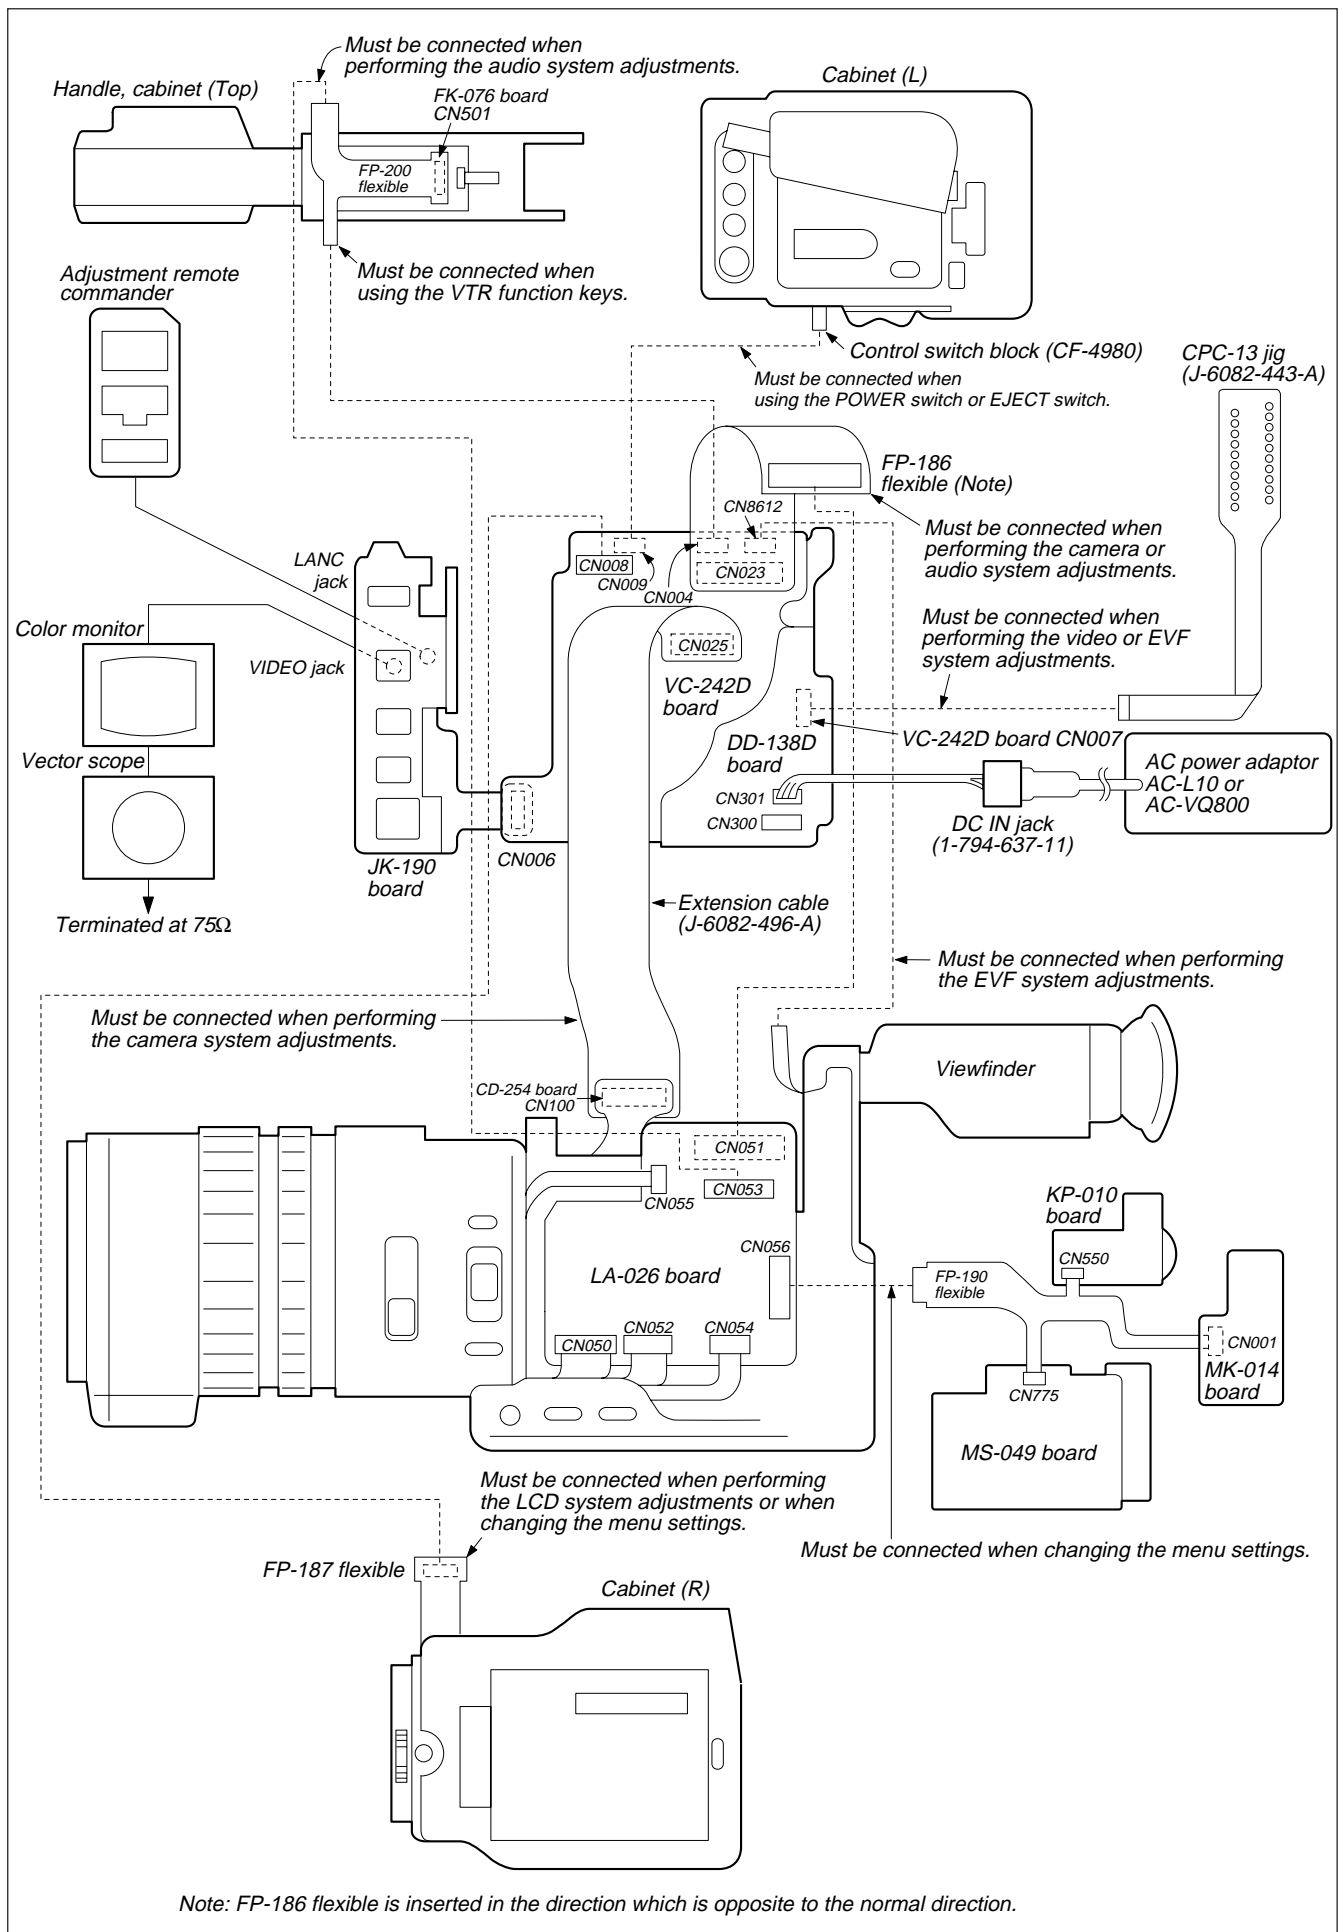

Fig. 5-1-3.
1) Connect the equipment for adjustments according to Fig. 5-1-3.
**Note 3:** As removing the cabinet (R) (removing the VC-242D board CN008) means removing the lithium 3V power supply (CK-093 board BT250), data such as date, time, user-set menus will be lost. After completing adjustments, reset these data. If the cabinet (R) has been removed, the self-diagnosis data, data on history of use (total drum rotation time etc. ) will be lost. Before removing, note down the self-diagnosis data and the data on history use (data of page: 2, address: A2 to AA). (Refer to “SELF-DIAGNOSIS FUNCTION” for the self-diagnosis data, and to “5-4.Service Mode” for the data on the history use.)